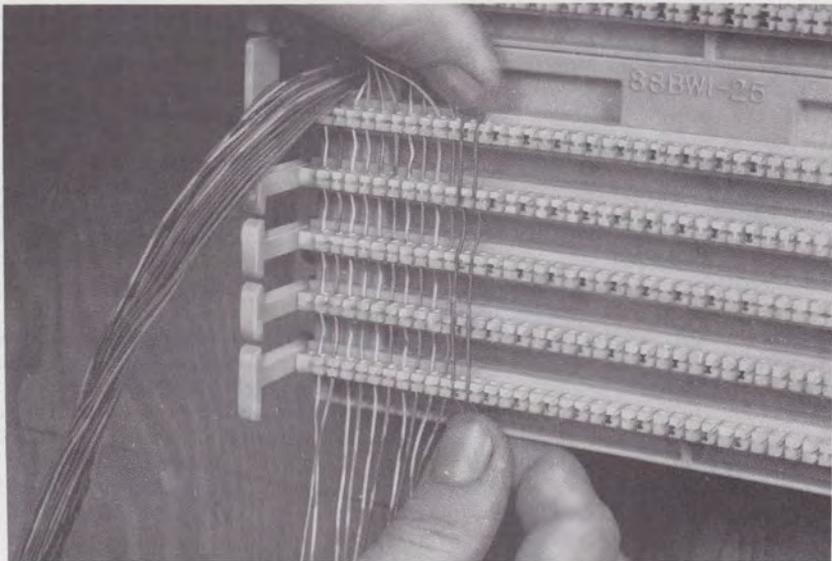

Fig. 16—Multiple Connections in Red Field
3.13 On wiring blocks used to provide key line service multiples (red field), the conductors are placed across the five index strips, again using a light finger pressure to place (Fig. 16). Conductors should not be tight.